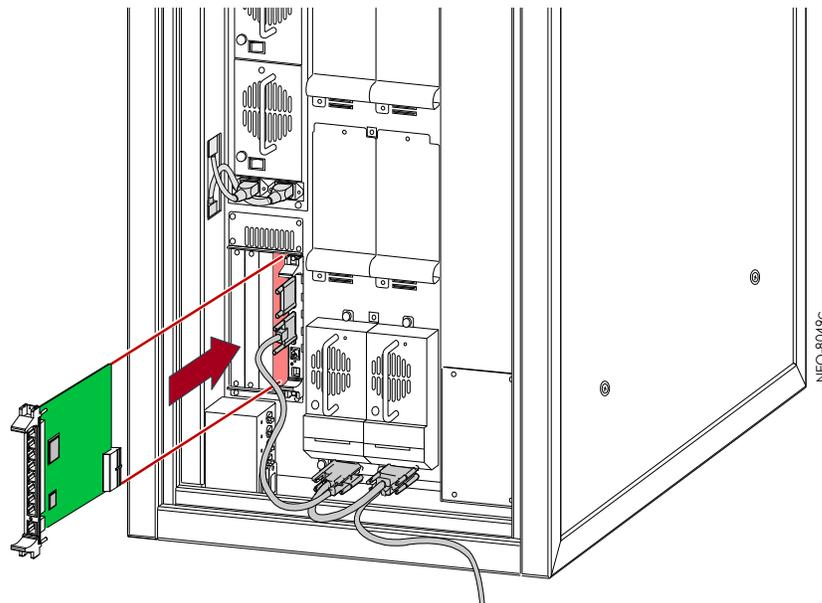

Figure C-3: Inserting the Router Card into the Library
5. With the WAN port at the bottom, carefully insert the **Router card** into the guide rails of the bay (Figure C-3).